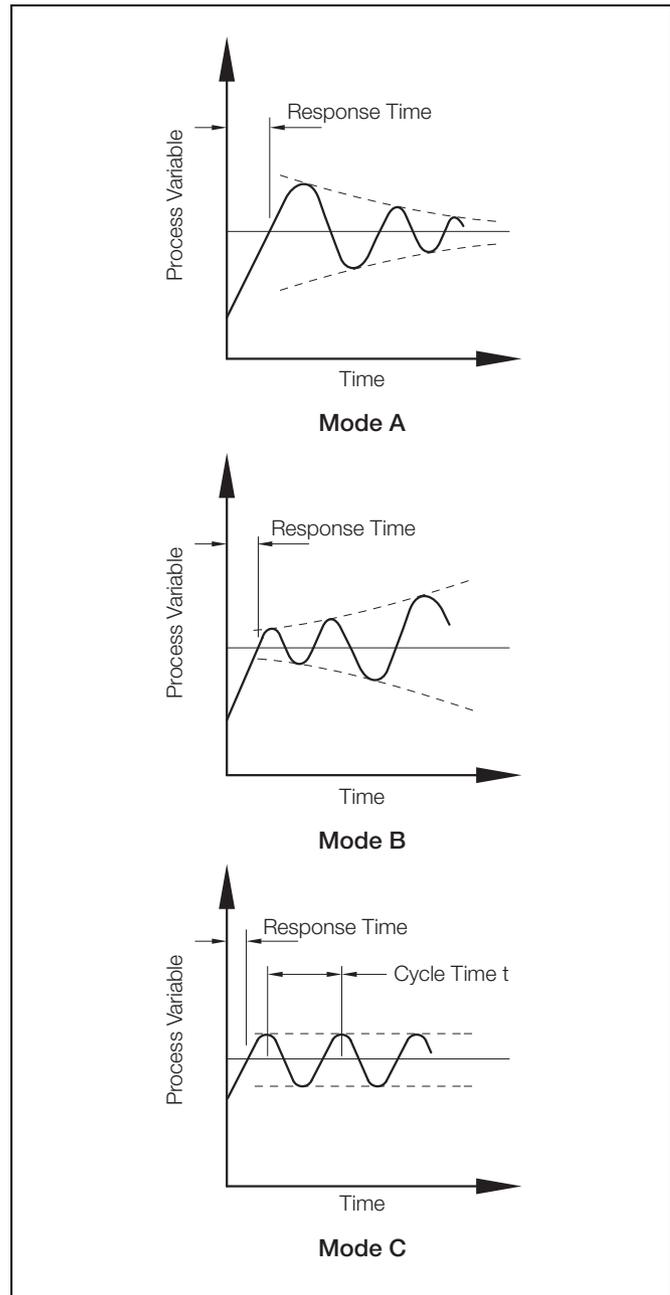

Fig. B.4 Control Conditions
- If the system goes into oscillation with increasing amplitude (Fig. B.4 Mode B), reset the proportional band to 200%. If oscillation continues as in Mode B, increase the proportional band further until the system ceases to oscillate.
- If the system oscillates as in Fig. B.4 Mode A, or does not oscillate, refer to step 3).
4. Note the cycle time 't' (Fig. B.4 Mode C) and the **Proportional Band** (critical value) setting.